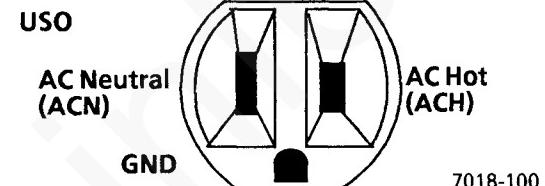

Figure 1. USO Wall Outlet
- b. USO only (Figure 1). Perform the following: